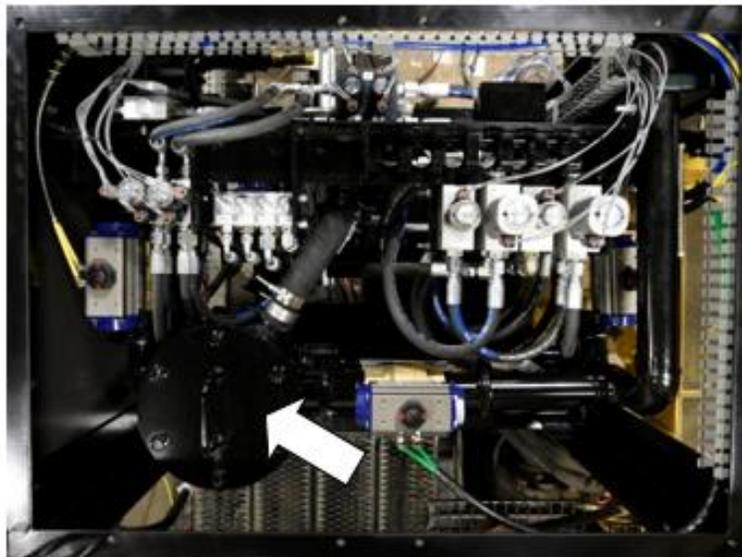

Figure 56: Strainer housing, top view
2. Remove the strainer housing cover (see Figure 56).